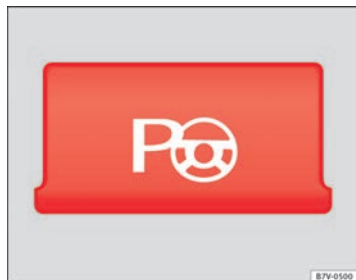

Fig. 145 Detailed view of the centre console: button to switch the park assist system on manually
- **Parallel parking:** press the button at speeds up to 50 km/h (30 mph) **once**. When the function is enabled, the button → Fig. 145 will light up.
- **Perpendicular parking:** press the button at speeds up to 50 km/h (30 mph) **twice**. When the function is enabled, the button → Fig. 145 will light up.
- Press button . When the function is enabled, the button \Rightarrow Fig. 145 will light up.